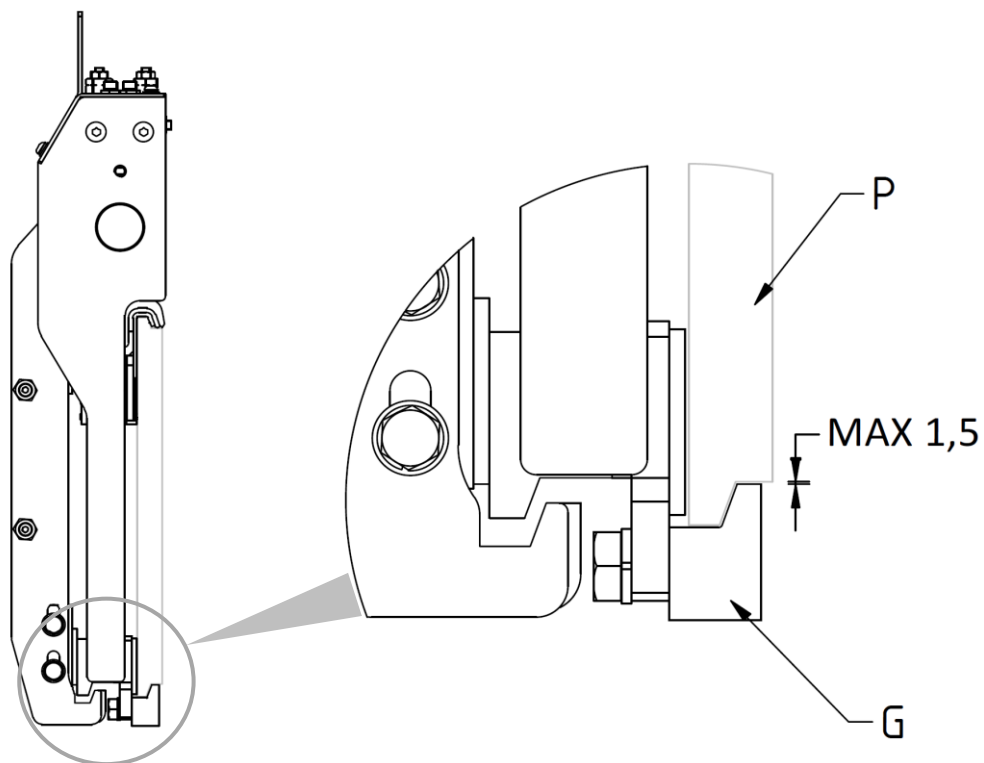

Figure 5
8. Screw on the 2 lower couplings **G** in such a way that their bodies also remains coupled to the lower part of the fork carriage **P** (with max. clearance of 1.5 mm, see *Figure 5*), tightening with the torque indicated in *Table 3*.